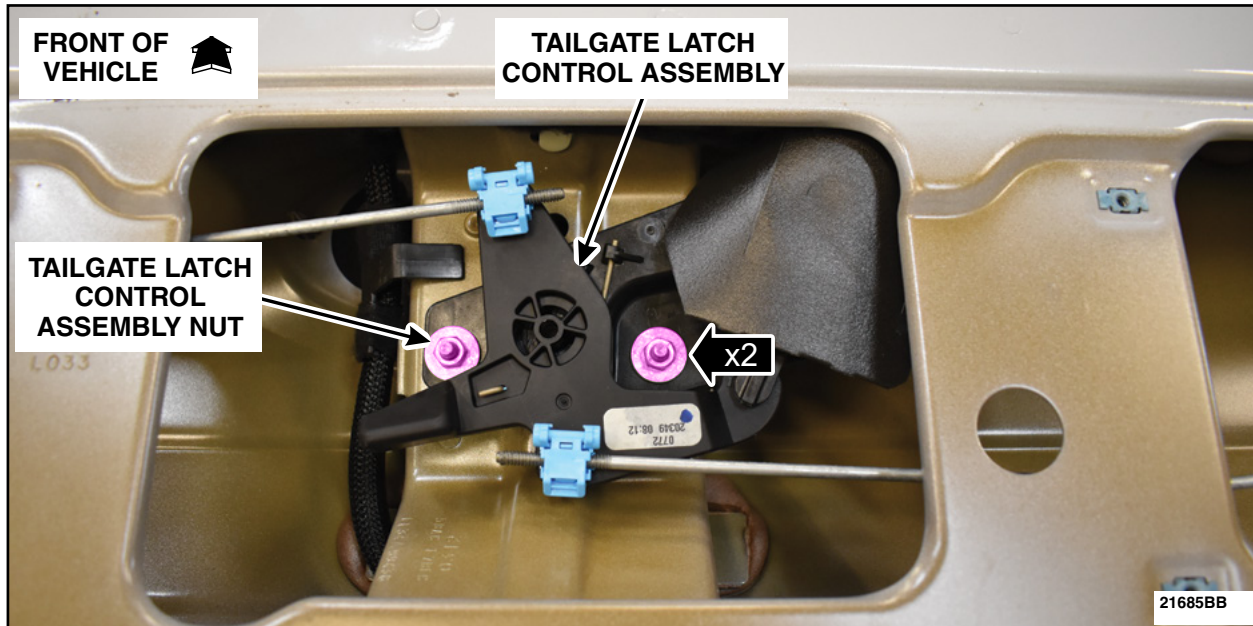

FIGURE 62
82. Position back the tailgate latch control assembly and install the nuts. See Figure 62.